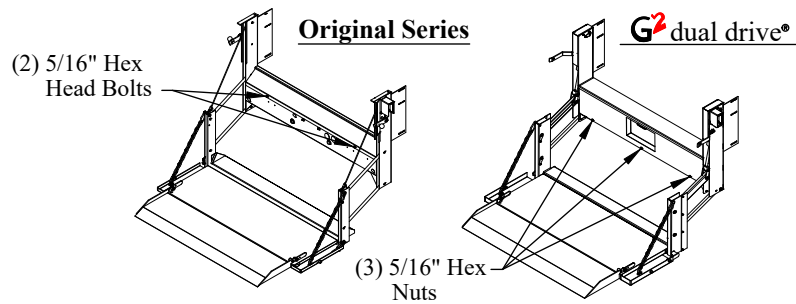

Figure 11: Box cover locations.
1. **Remove** the box cover by removing the 5/16" hex head nuts or bolts (Figure 11).